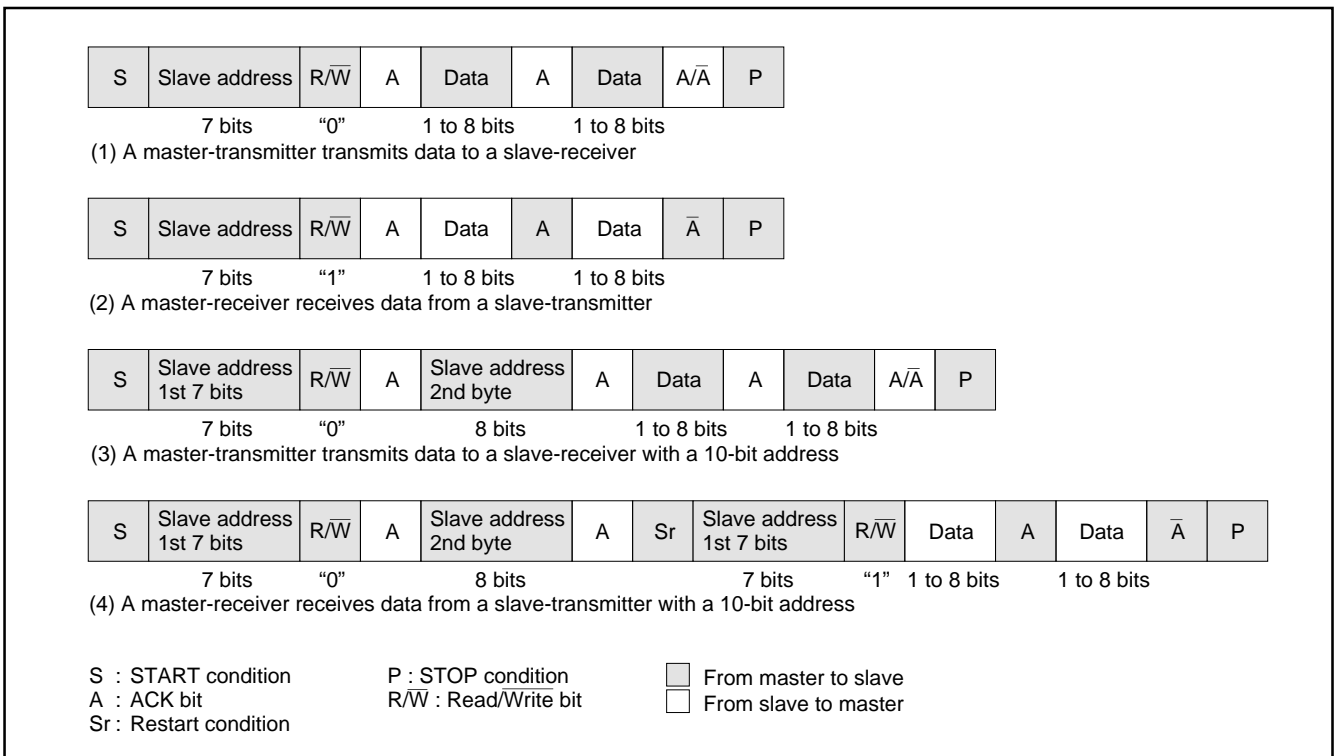

Fig. 22. Address data communication format
① 7-bit addressing format
To meet the 7-bit addressing format, set the 10BIT SAD bit of the I²C control register (address 00DA16) to "0." The first 7-bit address data transmitted from the master is compared with the high-order 7-bit slave address stored in the I²C address register (address 00D816). At the time of this comparison, address comparison of the RBW bit of the I²C address register (address 00D816) is not made. For the data transmission format when the 7-bit addressing format is selected, refer to Figure 22, (1) and (2).
② 10-bit addressing format
When the first-byte address data matches the slave address, the AAS bit of the I²C status register (address 00D9₁₆) is set to "1." After the second-byte address data is stored into the I²C data shift register (address 00D7₁₆), make an address comparison between the second-byte data and the slave address by software. When the address data of the 2 bytes matches the slave address, set the RBW bit of the I²C address register (address 00D8₁₆) to "1" by software. This processing can match the 7-bit slave address and $\overline{R/W}$ data, which are received after a RESTART condition is detected, with the value of the I²C address register (address 00D8₁₆). For the data transmission format when the 10-bit addressing format is selected, refer to Figure 22, (3) and (4).
(10) Example of Master Transmission